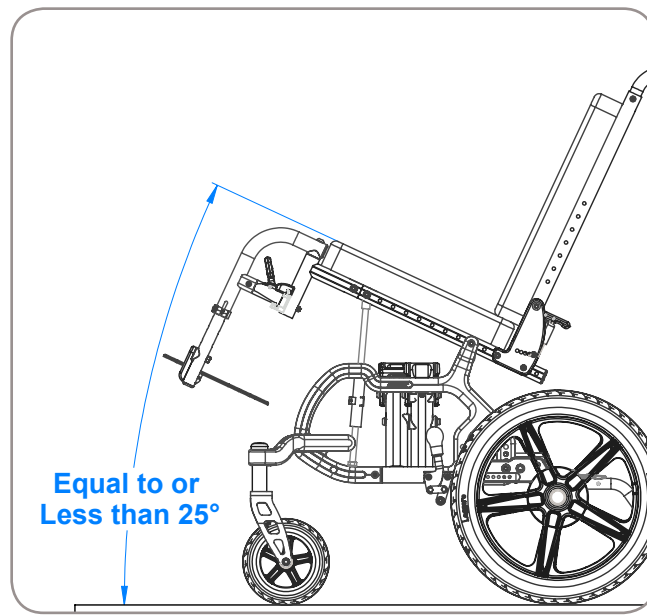

Figure 40
4. For caregiver assisted movement, do not adjust the angle of the seat beyond 25° posterior. Reference Figure 40.